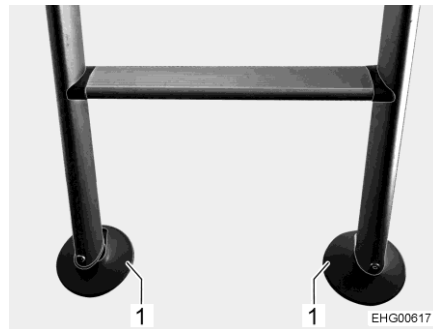

Fig. 57 Plastic plate on the access ladder
- Fold out both plastic plates (Fig. 57,1) at the bottom of the access ladder. This ensures that the access ladder has a secure footing and the floor covering is not damaged.
- Fold in both plastic plates (Fig. 57,1) at the bottom of the access ladder.